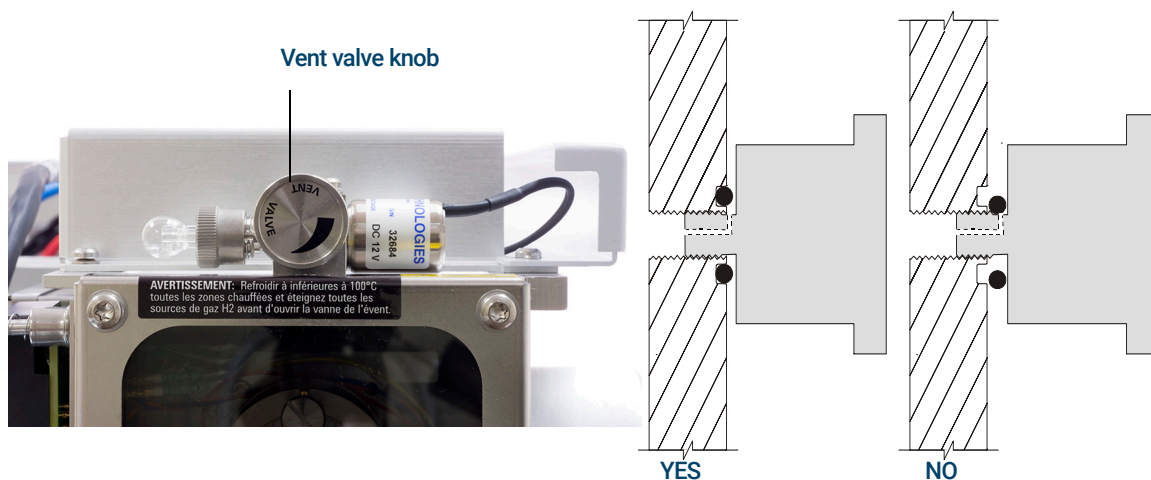

Figure 38. The MS vent valve knob
- 7 Turn the vent valve knob counterclockwise *only* 3/4 turn or until you hear the hissing sound of air flowing into the analyzer chamber. (See Figure 38.)